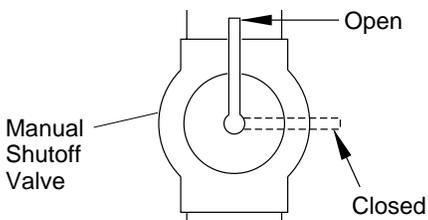

Figure 34 - Manual Shutoff Valve
1. Close manual shutoff valve (see Figure 34).
1. Open manual shutoff valve (see Figure 34).